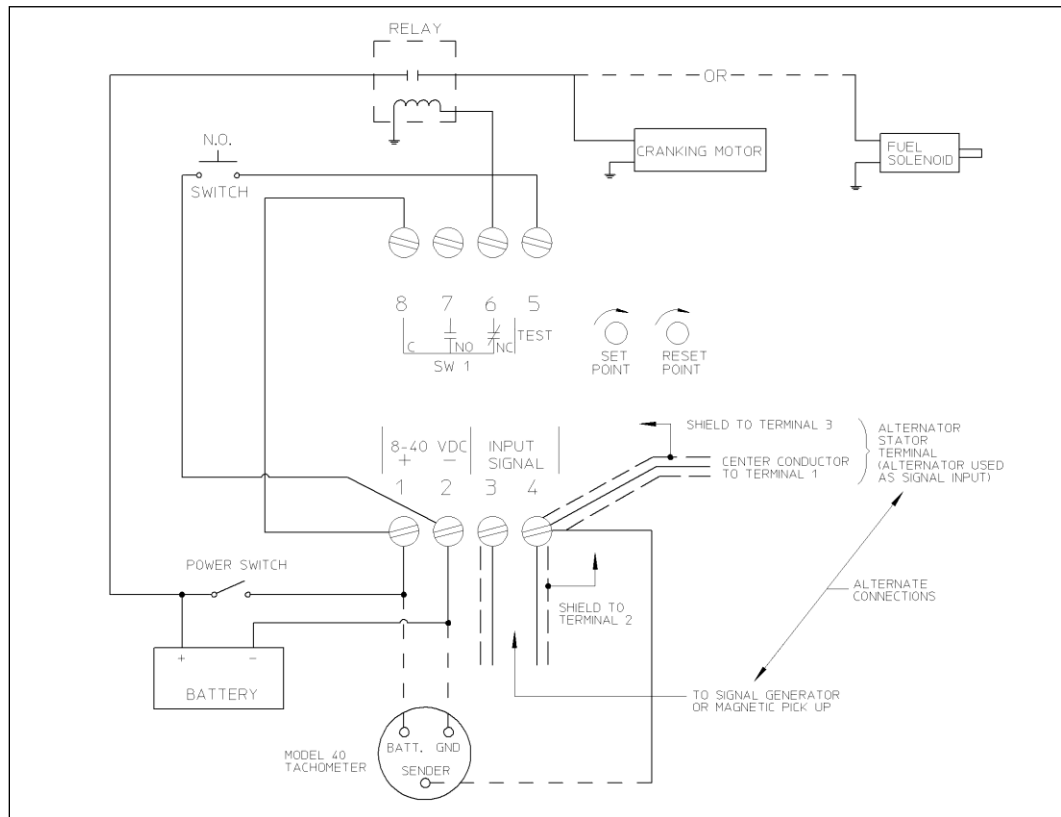

Figure 2. Connection Diagram
When the engine reaches proper speed during crank (starting), SW1 will close. Power will be removed from Terminal 6 and applied to Terminal 7, causing the cranking motor to be disconnected. (Refer to **Figures 2 or 3**).
If load currents in excess of 10 amps are expected, interface relays should be used (refer to **Figures 2 and 3**).
1. Connect a DC voltmeter between Terminal 2 (or negative terminal of battery) and Terminal 6 as shown in **Figures 2 or 3**.
The following check points can be used to determine if the ESSE-1 is operating properly. Refer to **Figure 2**. All AC voltage readings are in RMS.